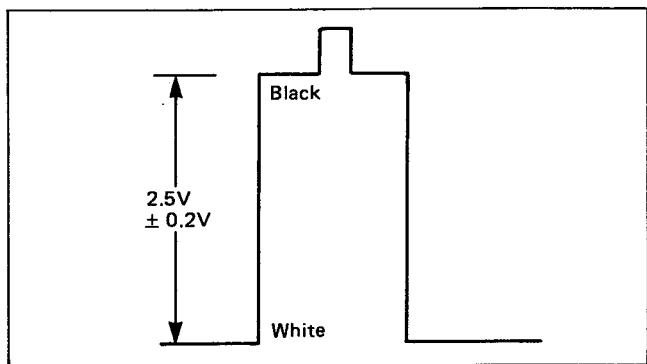

Fig. 21
5) Adjust Sub Contrast control VR (R1103) to achieve $2.5V \pm 0.2V$ on the oscilloscope as shown in Fig. 21.